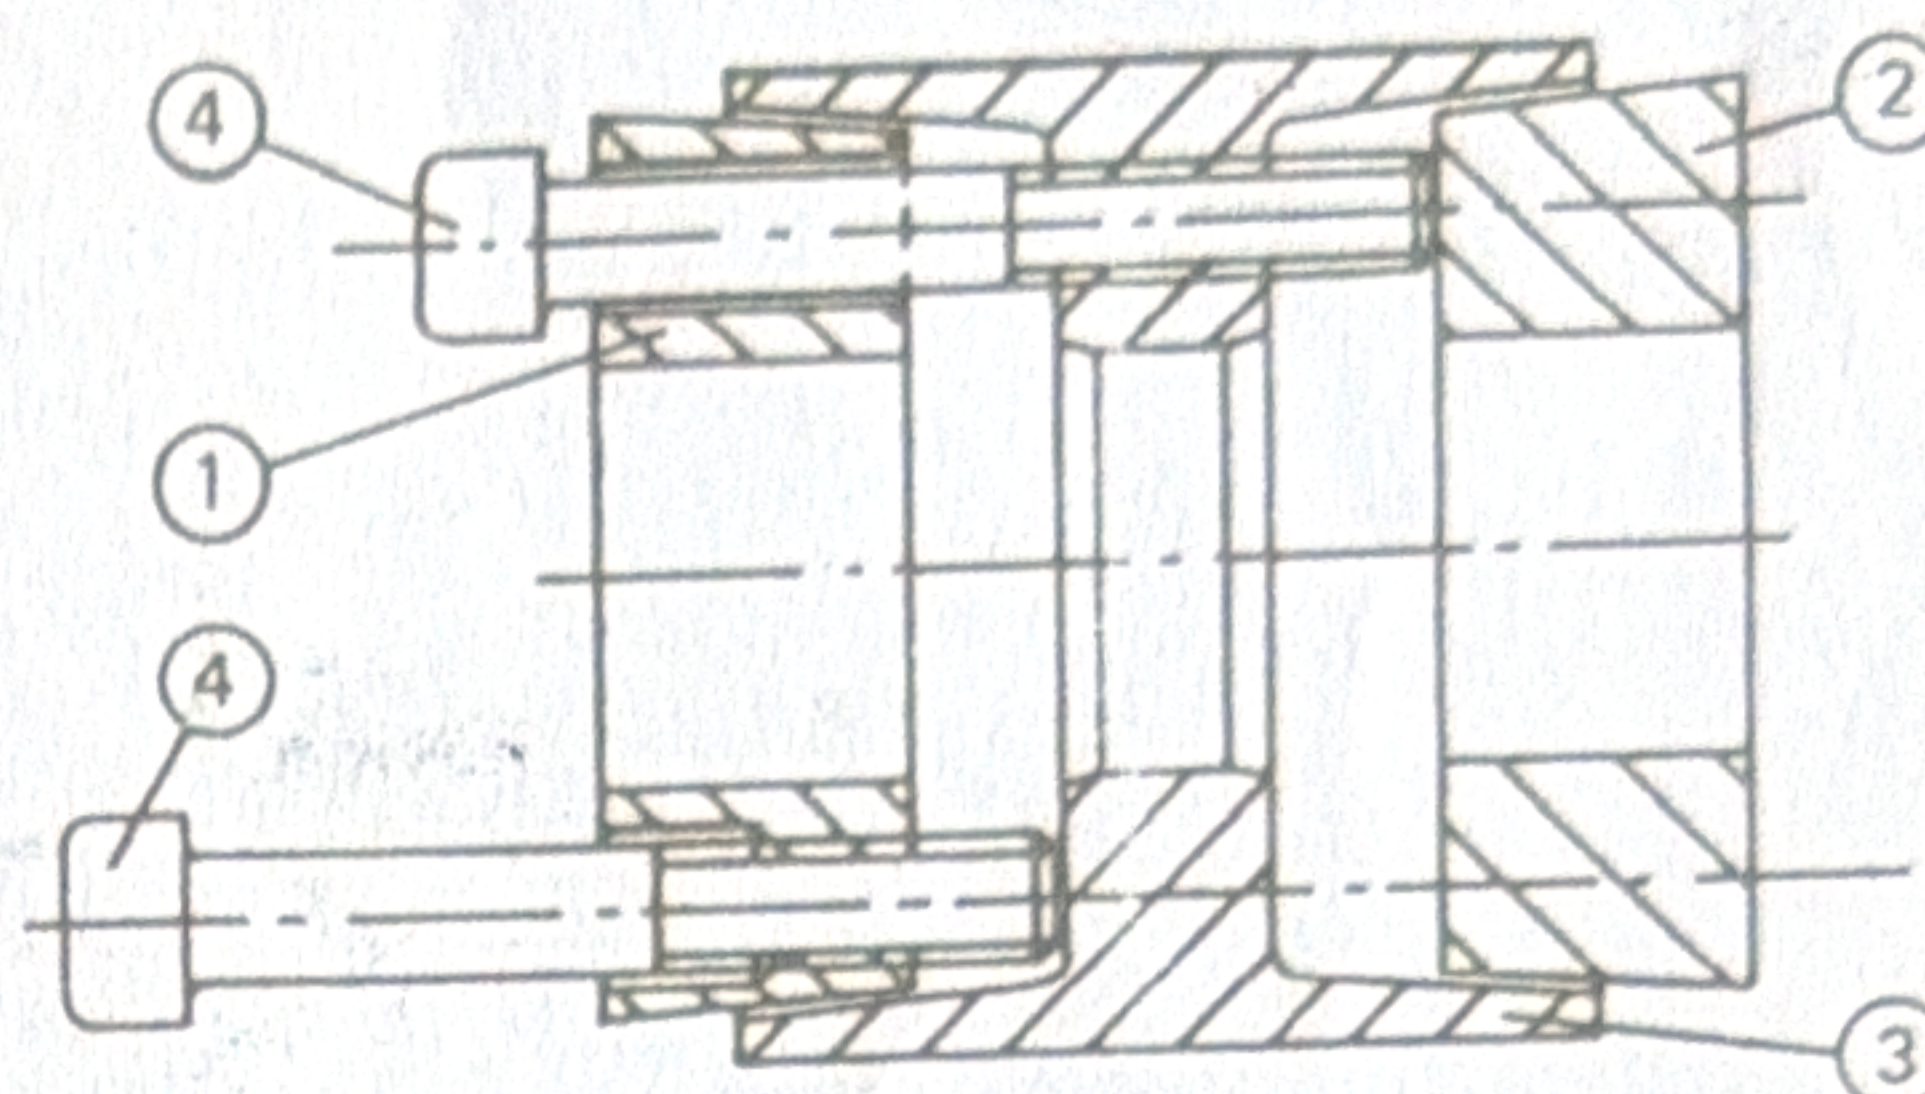

Figure 2
Locking assemblies are supplied ready for installation. However, if for some reason they have to be disassembled, make sure that in addition to lined-up slits in all collars, near and far-side clamp collars are not reversed. They are assembled correctly only if there are no holes or threads behind taps in clamp collar item no. 1. Likewise, there must be no threads behind taps in center collar item no. 3 as illustrated in fig. 2. The frictional torque capacity of these devices is based on a coefficient of friction of 0.12 for lightly oiled screw, taper, or shaft and bore contact areas. **Therefore, it is important not to use Molybdenum Disulfide, e.g., Molykote, Never-Seeze or similar lubricants in any locking assembly installation.**
2. Loosen all locking screws by a minimum of 2 turns and transfer at least 2 screws to push off threads in clamp collar item no. 1 and center collar item no. 3 in order to disengage tapers for easy installation of locking assembly (see fig. 2).
REMOVAL (refer to fig. 2)